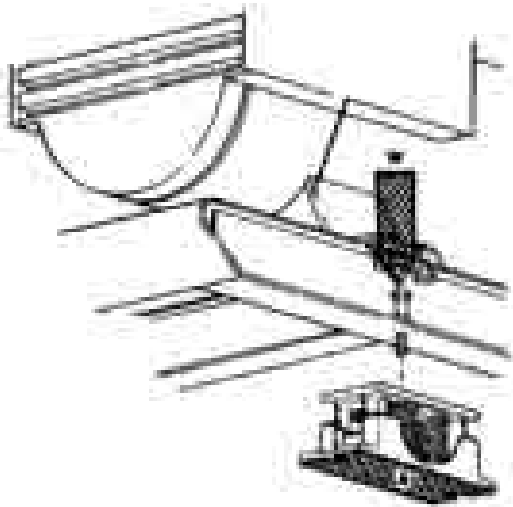

Figure 36
The area of load-bearing support is adjusted to accommodate surface material. To determine pressure (P) exerted by the generator set, divide total weight (W) by total surface area (A) of the rails, pads, or vibration mounts. Refer to **Figure 36**.